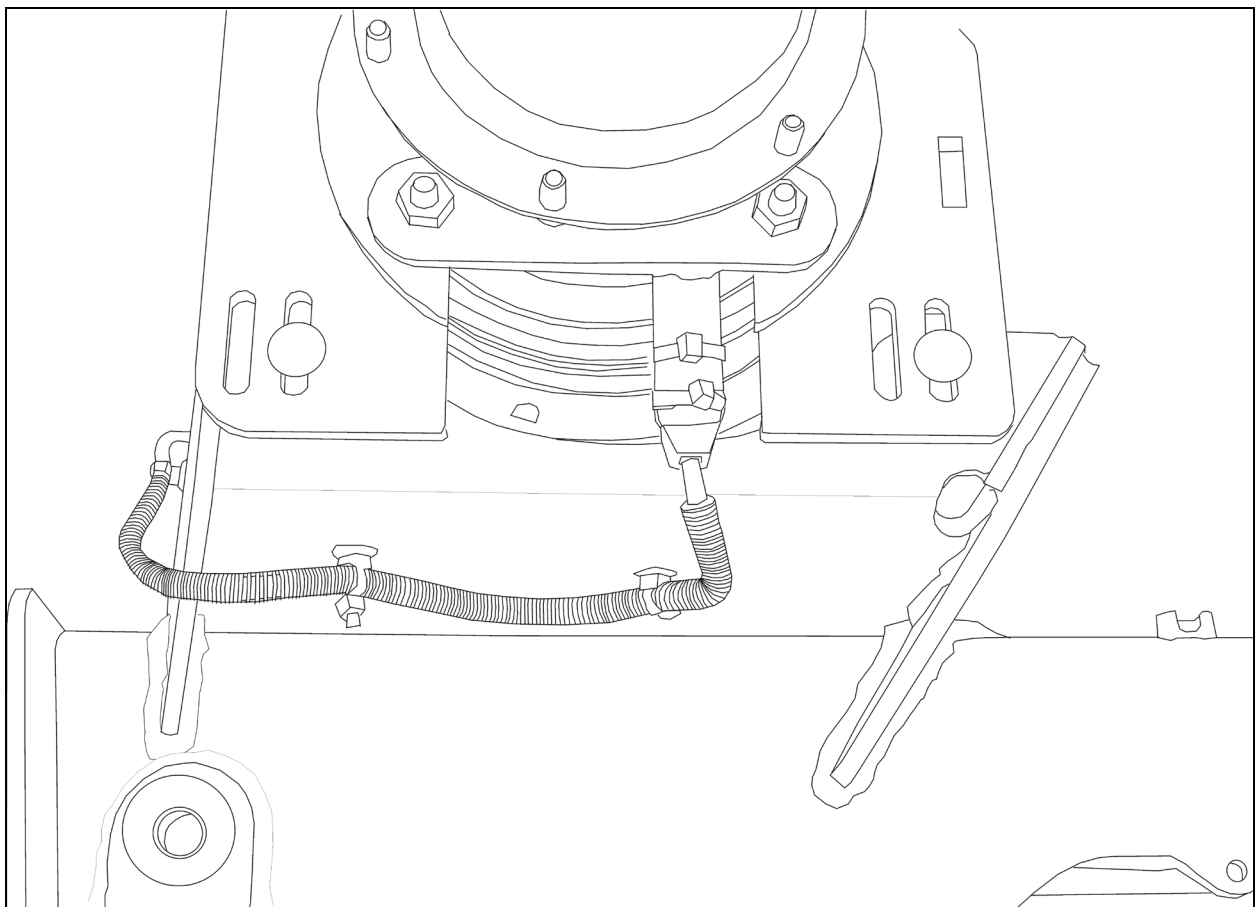

FIGURE 2
22. Route clutch power cable along the mounting base as per figure 2. Fix power cable connector onto reinforcement plate bracket using 2 nylon cable ties (504637). Drill 7-mm holes in order to install quick mounting wire clamps (509815) (504637) so as to secure cable.